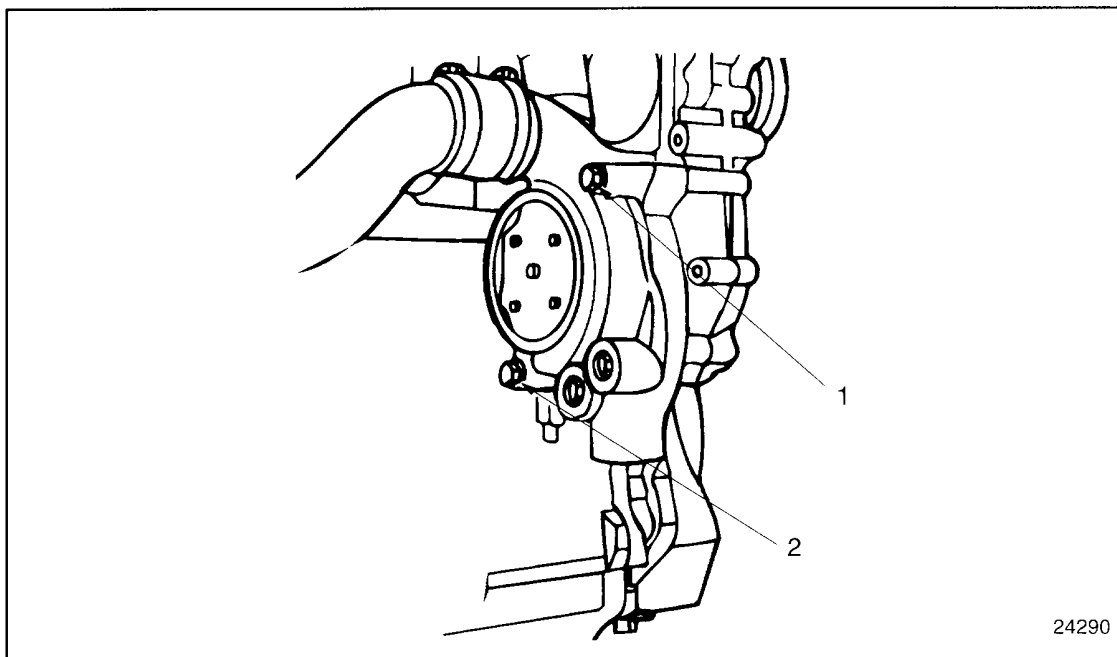

Figure 1-163 Gear Case Cover Bolt Torque Sequence (Right Rear)
- [g] Install the bolts on the exhaust (right) side of the engine. Torque the bolts to 58-73 N·m (43-54 lb·ft). See Figure 1-163.